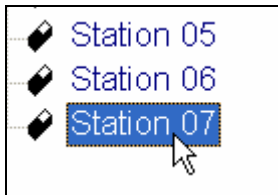

Figure 16.4.42C
- Click on the station that you want to make a slave (Figure 16.4.42C)